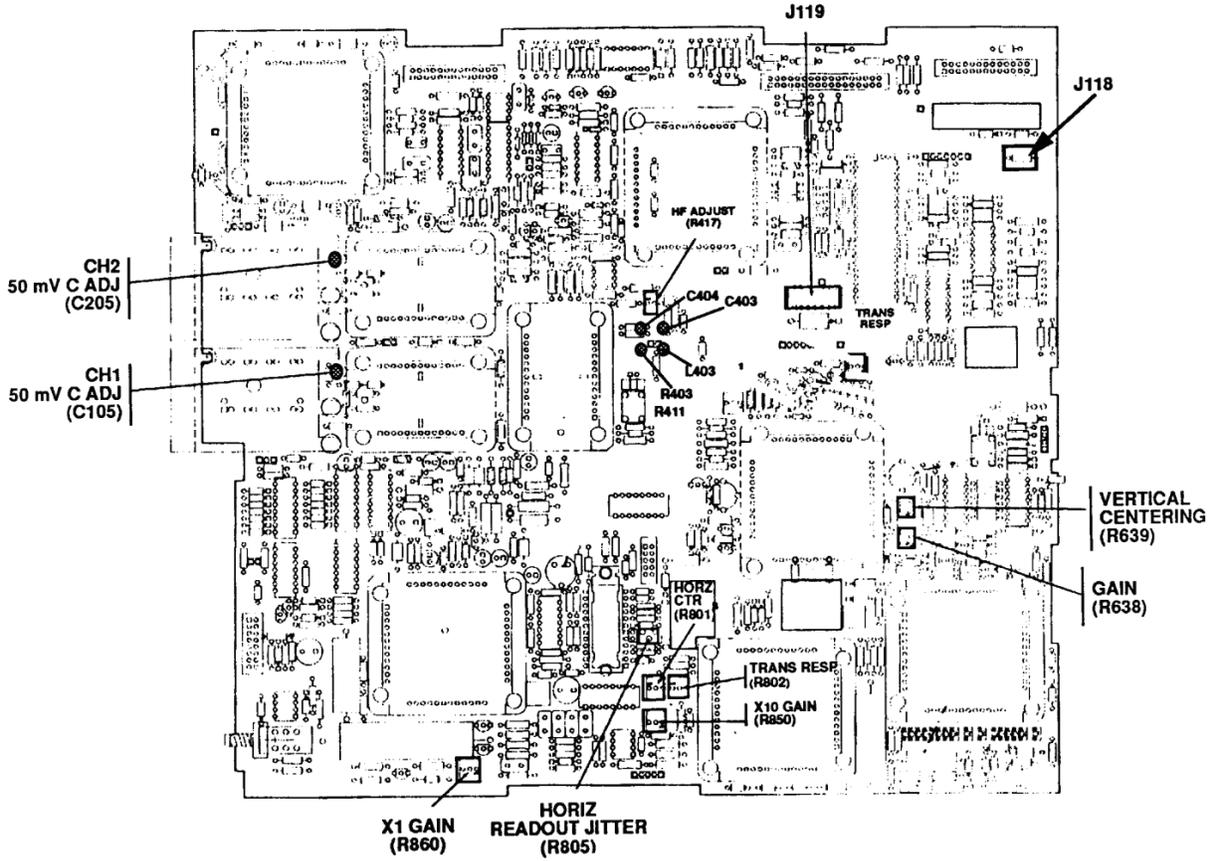
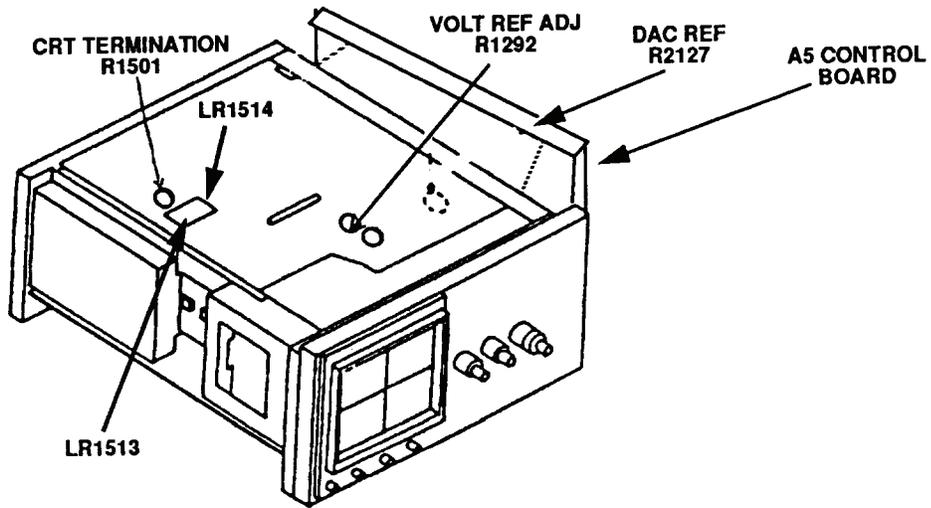

Figure 1. A1 main board - adjustment locations.
Figure 2. Adjustment locations.
- (1) Press **VERTICAL MODE** pushbutton **CH 2** to off.
- (2) Connect multimeter **LO** to chassis ground and **HI** to TI J119 (fig. 1) pin 4. If multimeter does not indicate between +9.99 and +10.01 V dc, perform **b** below.
**b. Adjustments.** Adjust VOLT REF ADJ R1292 (fig 2) until multimeter indicates 10.00 V DC (R).
- (1) Press  **$\Delta t$**  pushbutton for a  **$\Delta t$**  display on crt.
- (2) Connect multimeter **LO** to chassis ground and **HI** to J118 (fig 1) pin 2.
- (3) Rotate  **$\Delta$ REF OR DLY POS** control ccw until multimeter indication remains at a constant value (approximately -1.25 V dc). Record indication.
- (4) Rotate  **$\Delta$ REF OR DLY POS** control cw until multimeter indication remains at a constant value (approximately 1.25 V dc). Record indication.
- (5) Add the absolute values of indications recorded in (3) and (4) above (approximately 2.500 V).
- (6) Subtract the total in (5) above from 2.500 V, then divide the difference by two.
- (7) Adjust DAC REF R2127 (fig 2) to add the (signed) number obtained in (6) above to the reading in (4) above.
- (8) Repeat (3) through (7) above as necessary to obtain a total DAC range of 2.500 V.
- (9) Disconnect multimeter.
- (10) Press  $\Delta t$  pushbuttons to off (no cursor on display).
- (11) Connect oscilloscope calibrator **SOURCE/MEASURE CHAN 1** to **TI CH 1** using a 5-80 pF standardizer.
- (12) Set oscilloscope calibrator for a **CHAN 1, EDGE** mode output of **600 mV** at 1 kHz frequency.
- (13) Rotate oscilloscope calibrator knob below **EDIT** field pushbutton to adjust waveform to 6 divisions of vertical deflection on TI.
- (14) Adjust 5-80 pF standardizer for a square front corner over the first 40  $\mu$ s (0.4 division) of the positive portion of waveform. Note waveform front corner for use in (17) below.
- (15) Change oscilloscope calibrator **EDGE** mode output to **300 mV** at 1 kHz.
- (16) Set **VOLTS/DIV** switch to **50 mV** and rotate oscilloscope calibrator knob below **EDIT** field pushbutton to adjust waveform to 6 divisions of vertical deflection on TI.
- (17) Adjust CH1 50 mV C ADJ (C105) and CH2 50 mV C ADJ (C205) for CH 2 (fig 1) for same waveform front corner as noted in (14) above.
- (18) Set **VOLTS/DIV** switch to **100 mV**.
- (19) Repeat (13) through (18) above until no change is observed in the waveform front corner.
- (20) Press **VERTICAL MODE CH 1** to off and **CH 2** to on.
- (21) Repeat technique of (11) through (19) above for **CH 2**.
(24) Push up and release **TRIGGER COUPLING** switch. Display readout will indicate **X1, X10, HRZ CTR**, (step) **5, 10 μs** and two vertical cursors appears on the display.
(25) Change oscilloscope calibrator **MARKER** mode output to **10 μS/D**.
(26) If cursors are not aligned with 2d and 10th vertical graticule lines, adjust **X1 GAIN (R860)** (fig 1), and **HORZ CTR (R801)** (fig 1) to align the two cursors with 2d and 10th vertical graticule line (R).
(27) If TI does not display 1 time marker per division ± 1 minor division, adjust **X10 GAIN (R850)** (fig. 1) for 1 marker per division (R).
(28) Push up and release **TRIGGER COUPLING** switch. Display readout will indicate **ADJ Δ**, (step) **6, 10 ms, 100 μs**.
(29) Change oscilloscope calibrator **MARKER** mode output to **10 mS/D** and adjust **ΔREF OR DLY POS** control to intensify 2d time marker and **Δ** control to intensify 10th time marker, and superimpose delayed B sweep time markers within .2 division.